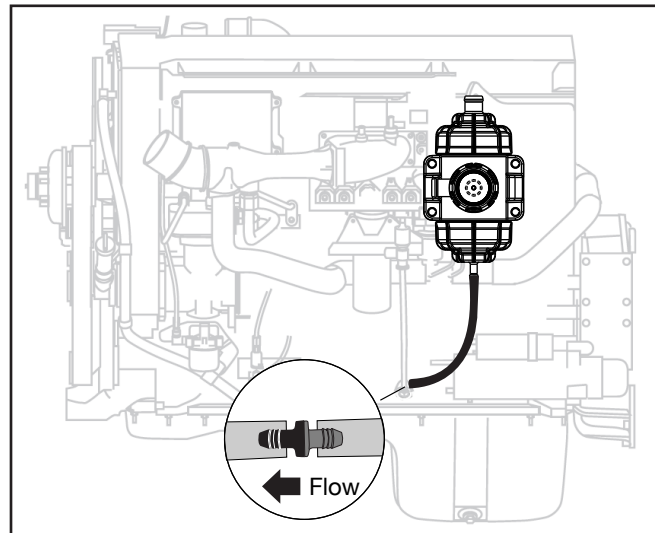

Figure 5 – Connecting to Drain
1. Attach a 3/8" (10 mm) ID hose to the CVM200 system drain. Attach the other end of the hose to the check valve. Ensure the check valve is oriented properly and in a vertical position. This hose should be long enough so that the check valve is near the drain-back port on the engine. See Figure 5.